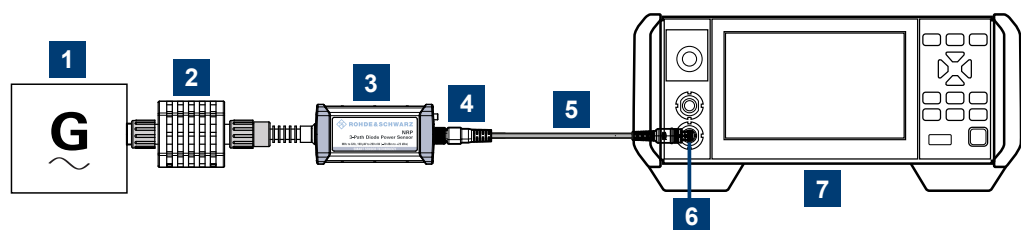

Figure 5-3: Setup with an R&S NRX base unit
2. Connect the cables as shown in Figure 5-3